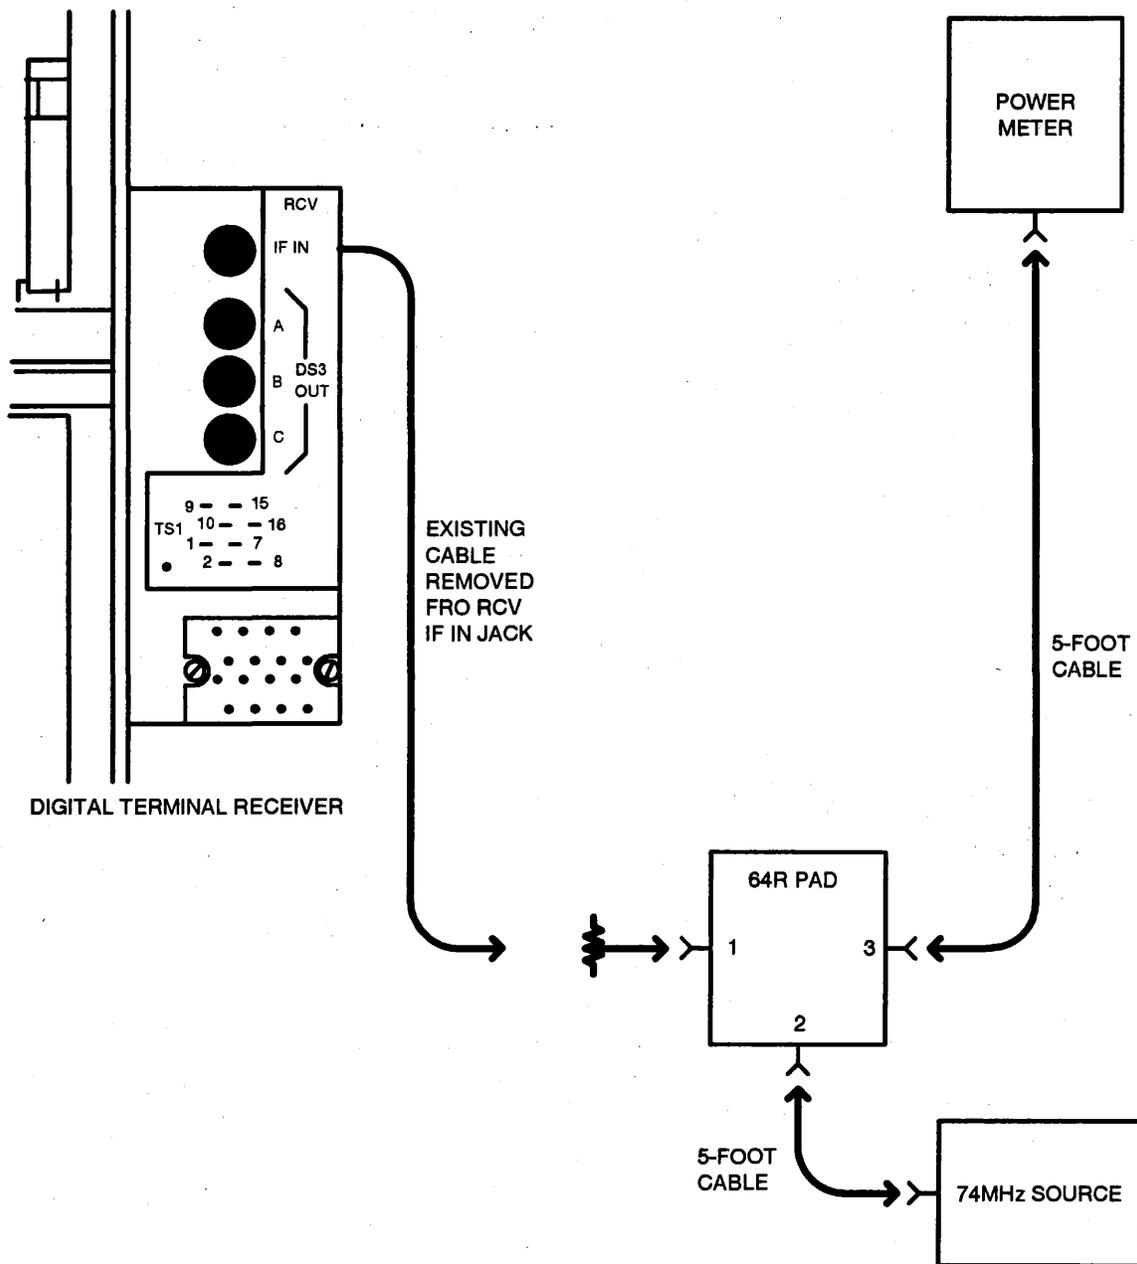

Figure 4-Interference Signal Level Measurement Test Connections
5. Make the test connections as Figure 4 shows.